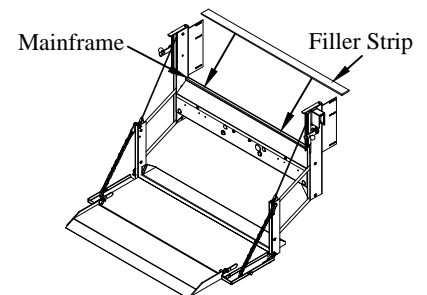

Figure 10: Filler strip location (Original Series).
1. **Weld** the supplied filler strip (12ga.x1-1/4"x58-1/2") to the top corner of the liftgate mainframe (Figure 10).